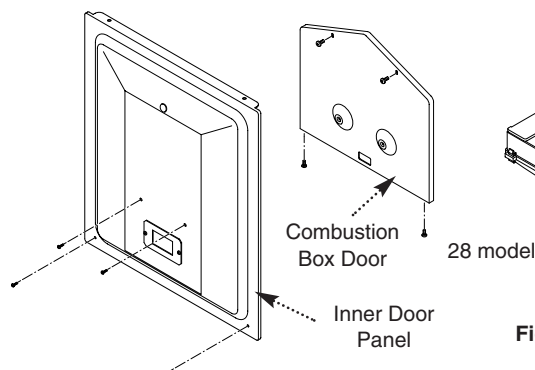

Fig. 37
6. Remove the screws securing the inner door panel. Lift the panel slightly to disengage it from the studs on top of the case (Fig. 37).
10. Remove the four screws securing the combustion box door and remove the door (Fig. 37).